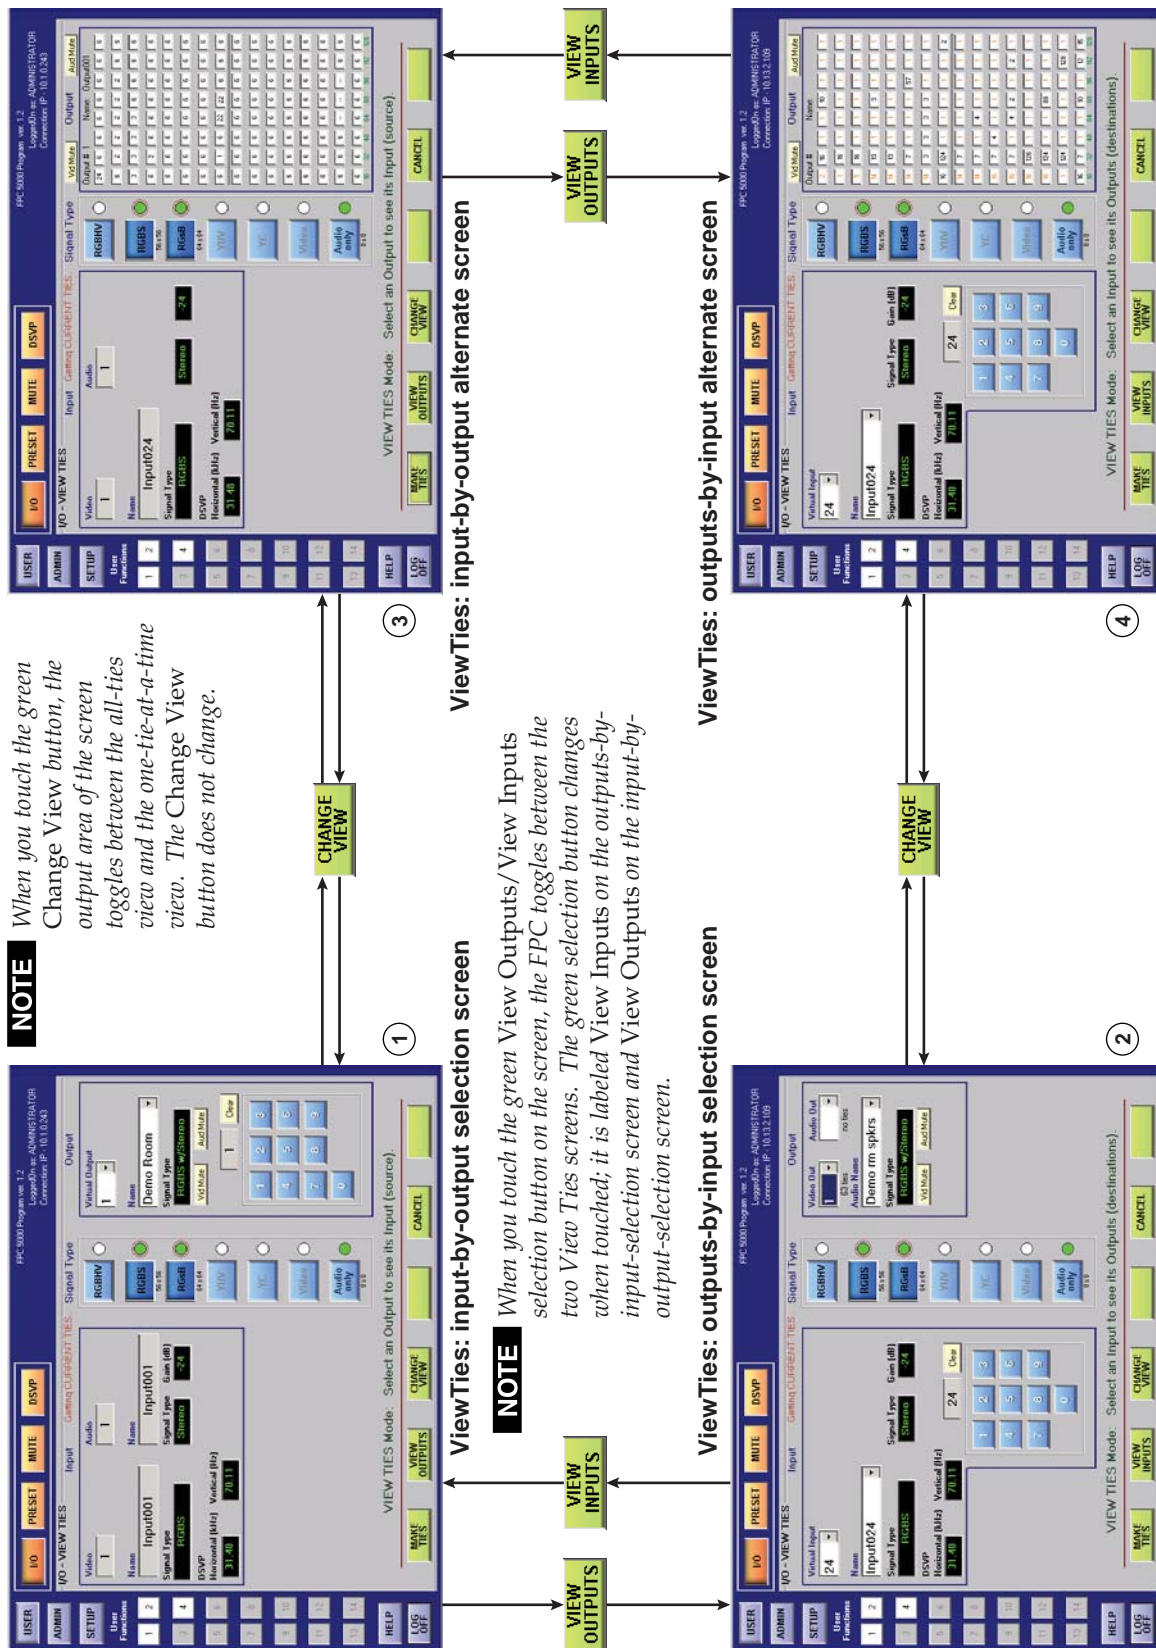

Figure 3-8 — View ties screens flowchart
There are three ways to view ties (figure 3-8):
1. If necessary, touch the *View Inputs* button.  The most recently selected View Ties: input-by-output-selection screen appears. See ① and ③ on figure 3-8.
2. If necessary, touch the *Change View* button  to display screen ① on figure 3-8.
1. If necessary, touch the *View Outputs* button.  The most recently selected View Ties: output-by-input-selection screen appears. See ② and ④ on figure 3-8.
2. If necessary, touch the *Change View* button  to display screen ② on figure 3-8.
View all of the ties by touching the green *Change View* button.  One of the View Ties: alternate screens appears. See ③ and ④ on figure 3-8. On the alternate screen, the output scroll bars, keypad, and fields are replaced with a grid that shows all outputs and the inputs that are tied to them. You **can** choose whether the view is by-inputs or by-outputs by touching the green *View Inputs* button  or *View Outputs* button , although there is very little difference between the two screens. The biggest difference is that if you have selected the View Ties: outputs-by-input-selection screen, when you select a virtual input (either using the scroll bars or the keypad) all of the virtual outputs are displayed in red in the grid. This gives you an easy way to see all of the outputs tied to an input at a glance.
See ⑤ on figure 3-8.
See ⑥ on figure 3-8.